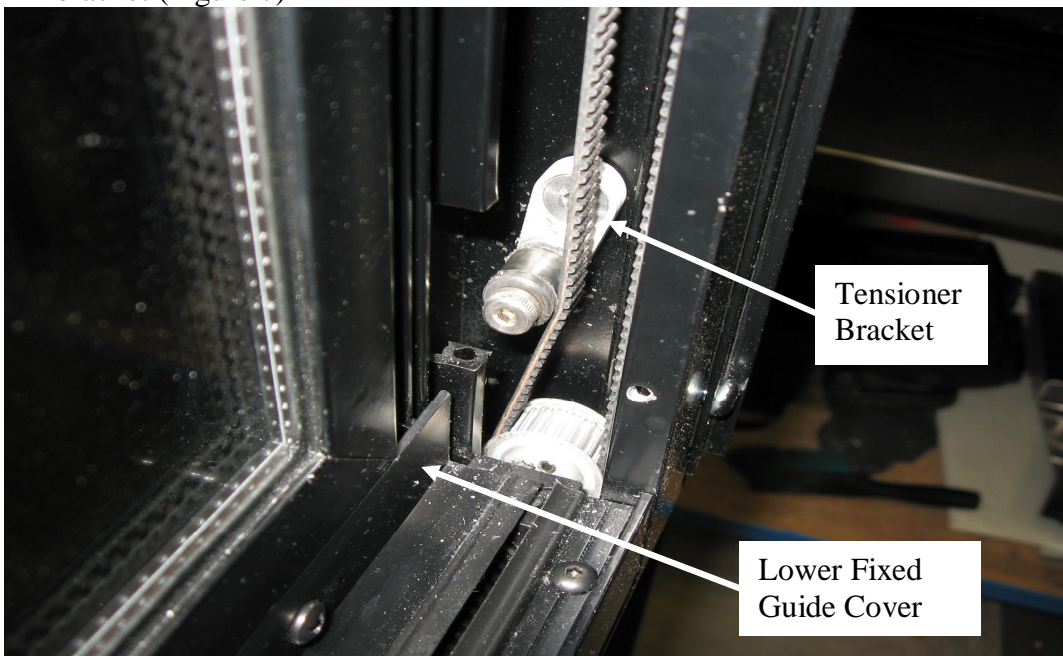

Figure 7
- 3) Remove the lower fixed guide cover and loosen the lower and the upper tensioner bracket (Figure 7)